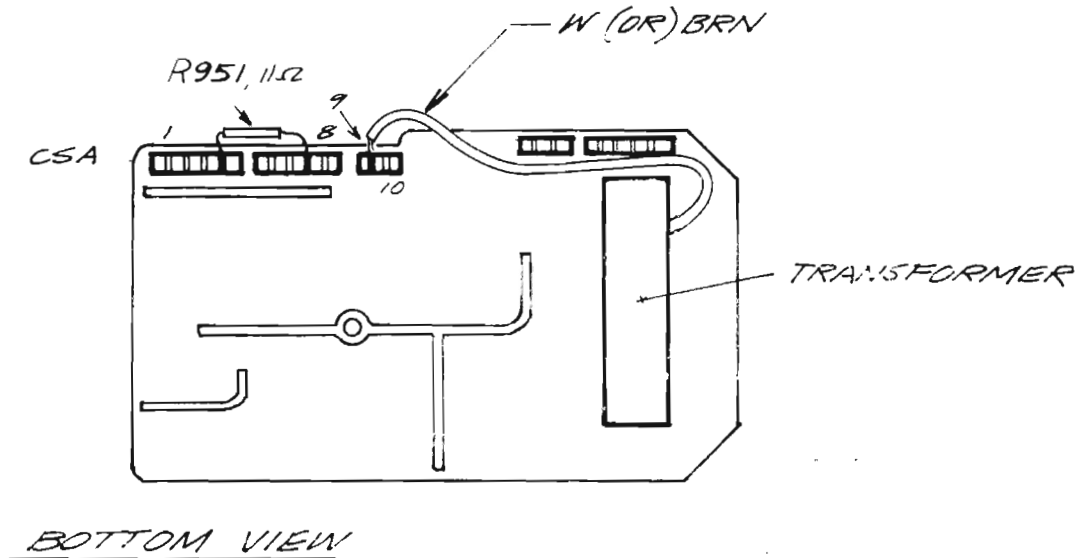

FIG. 2
- () 13. If R951 is not 11Ω, replace with new 11Ω resistor from the kit. See Fig. 2